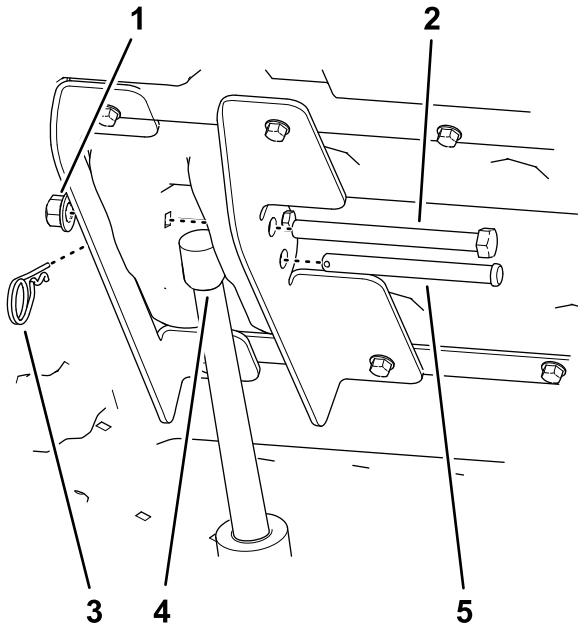

Figure 7
1. Remove the hex-head bolt (1/2 x 5-1/2 inches) and locknut (1/2 inch) from the inboard and outboard lift brackets (Figure 7).
2. Remove the hairpin cotter from the clevis pin (3-1/2 inches), and remove the clevis pin (3-1/2 inches) from the lift actuator rod (Figure 7).